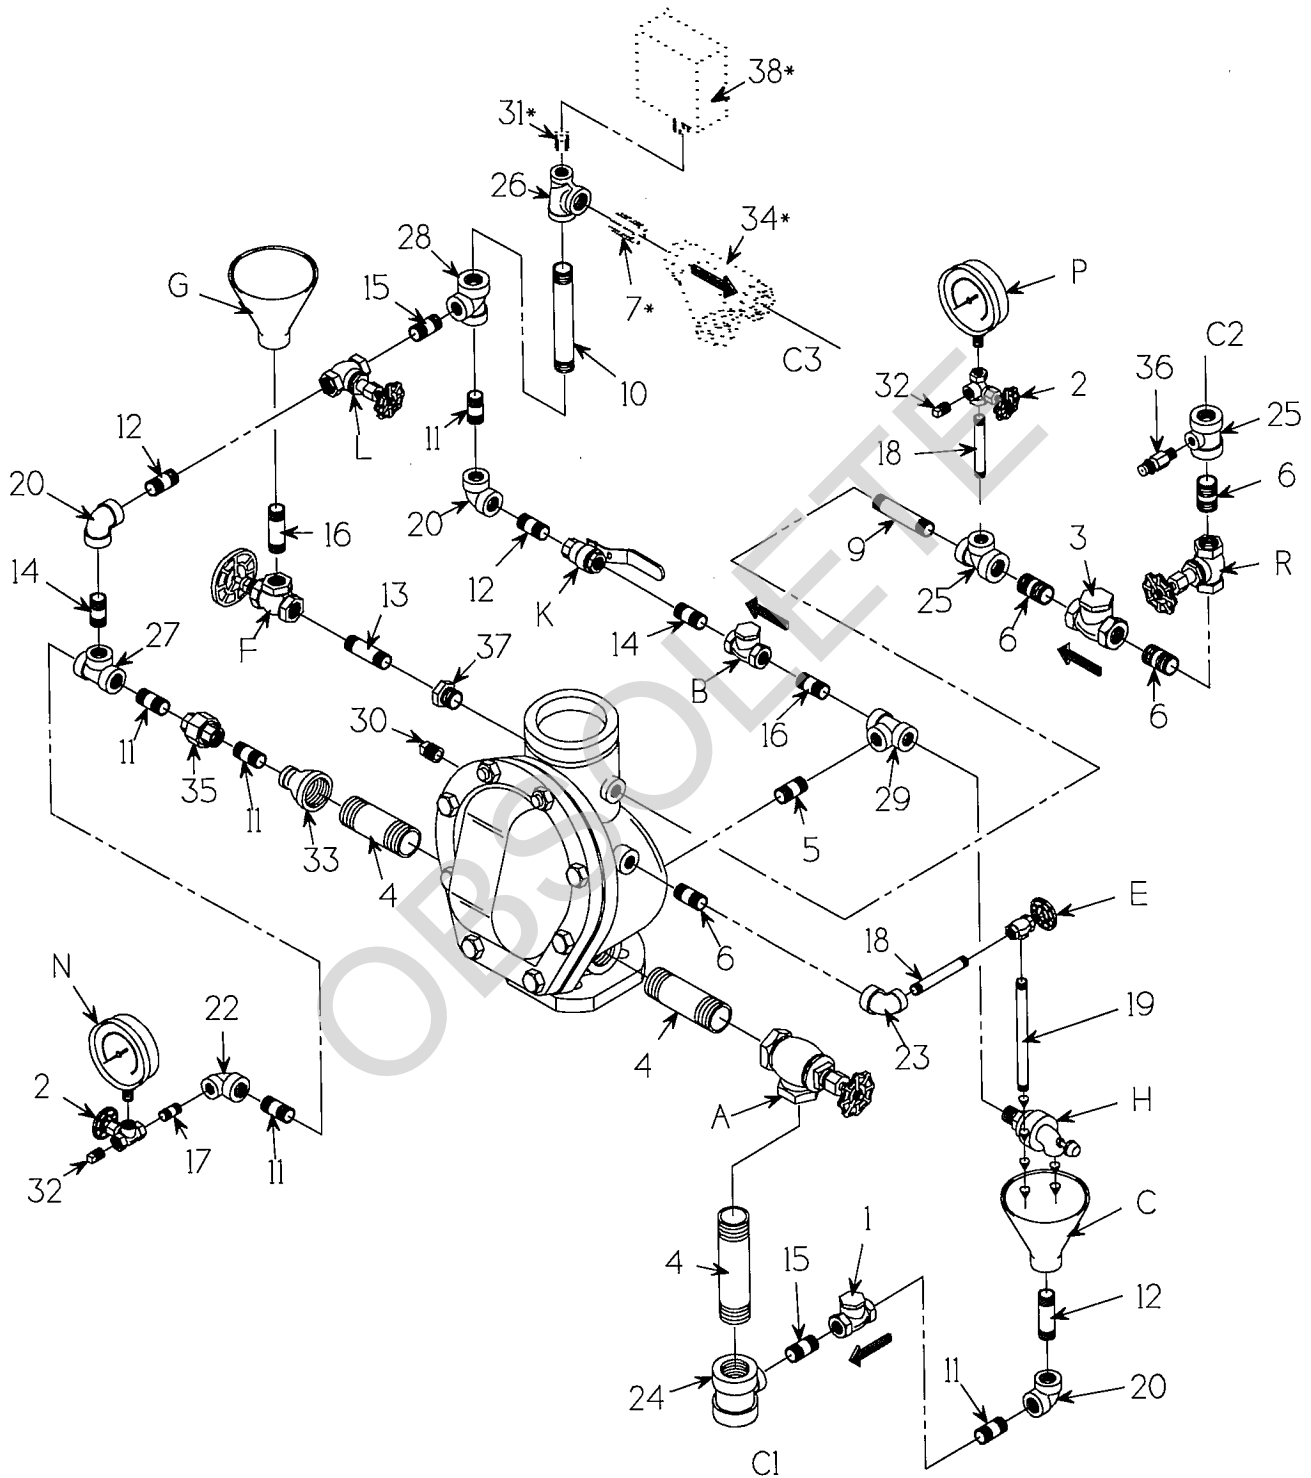

Figure 1 - 4" Model A Dry Pipe Valve Trim Diagram (P.N. 1206)
2. Open 1" main drain valve (A, Fig. 1) and drain system. Open all drain valves or plugs at low points throughout the system, and close them when water has stopped flowing.
6. Open priming water level control valve (E, Fig. 1).
7. Open priming valve (F, Fig. 1); pour water into fill cup until water flows from the outlet of valve E; then close valve F tightly.
9. Open air supply valve (R, Fig. 1) and allow a few points of air pressure to enter the system. This will be indicated on air gauge (P, Fig. 1).
After air pressure has remained at the prescribed limit for a few minutes, inspect the velocity drip check valve (H, Fig. 1). If no leak occurs, air seal is tight. (If leak occurs, see the section on leaks under "Maintenance.")
12. Fully open valve A and then very carefully slightly open the main water supply valve (not shown). Slowly close valve A until water pressure on water gauge (N, Fig. 1) reaches maximum pressure.
14. Open bell valve (K, Fig. 1) to the wide open position. This valve should be sealed in the open position to permit water flow to alarms.
4. **Check for Obstructions:** Check drain piping for obstructions. To obtain a satisfactory test result, there must be an unobstructed flow of water when the valve (A, Fig. 1) is fully opened.
The water motor alarm and/or the alarm pressure switch are tested by opening the alarm test valve (L, Fig. 1). This releases water into the alarm line which should activate the alarm. Close this valve tightly when testing has been completed.
If the water motor alarm is sluggish or does not sound at all, remove and inspect the strainer screen. Remove plug from the strainer (33, Fig. 1), clear the strainer screen and body of all foreign matter, and retest.
Drainage of the alarm piping after testing occurs automatically through a small hole in the clapper of the check valve (B, Fig. 1).
1. With the main drain valve (A, Fig. 1) closed, record the reading on the gauge (N, Fig. 1).
2. Open valve (E, Fig. 1) and allow air to discharge from system piping. Observe air pressure gauge (P, Fig. 1) and record the pressure at which the valve trips.
3. When valve trips, quickly close the system control valve and open the main drain valve (A).
To check priming water level, close the valve controlling the water supply to the dry pipe valve and draw off system water pressure by opening the drain valve (A, Fig. 1), then open valve E (Fig. 1). If water flows, draw water off slowly; close valve E after flow ceases.
Occasionally, push the plunger on the velocity drip check valve (H, Fig. 1) to ensure that the check ball is free and no water has accumulated in the intermediate chamber of the dry pipe valve.